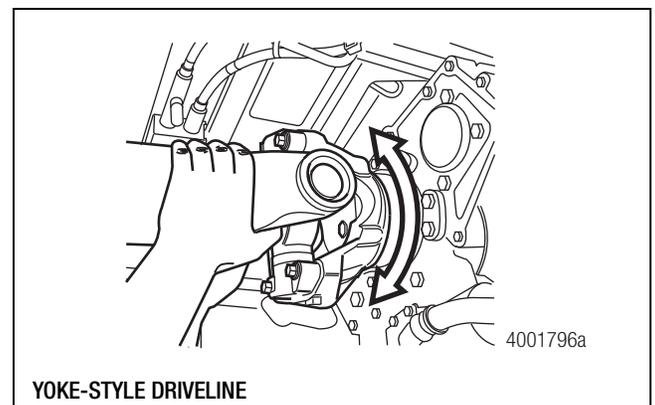
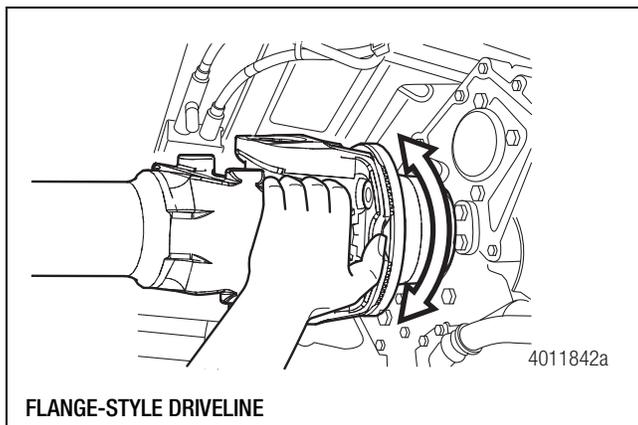

Figure 3.1
Figure 3.2
- B. Move the end yoke UP-AND-DOWN and SIDE-TO-SIDE. There shouldn't be any movement where the yoke or flange connects to the input and output shafts. Figure 3.1 and Figure 3.2.
- **If the input and output end yokes or flanges are not loose, check that the transmission output shaft and axle input shaft splines aren't loose at the end yoke or flange:** Hold the yoke or flange with one hand and rotate it LEFT-TO-RIGHT while you check end play for radial looseness. Figure 3.1 and Figure 3.2.